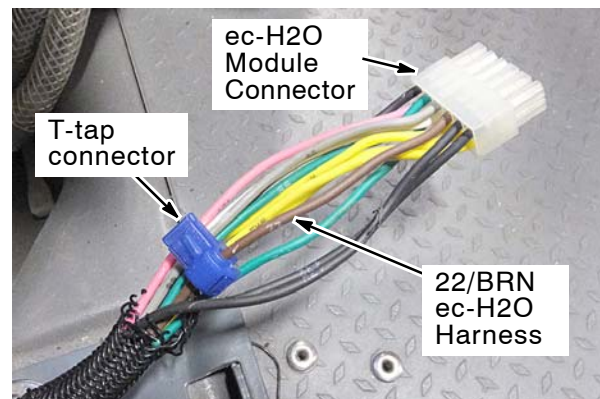

Fig. 17
- B. Remove about 152mm of the braided insulator from the end of the ec-H2O connector harness. Locate wire 22/BRN and add T-tap connector (25) to wire as shown. (Fig. 17)